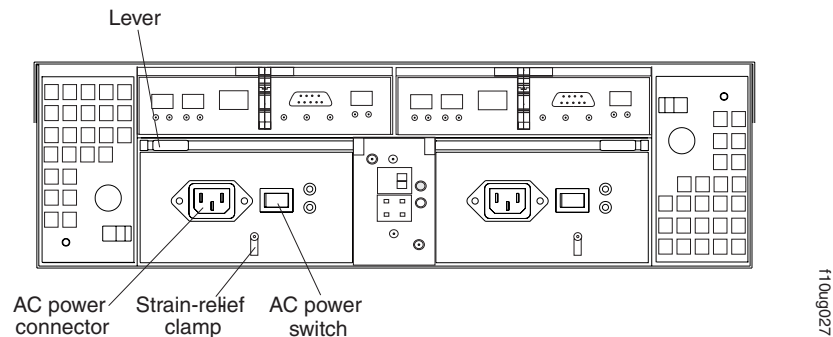

Figure 68. Connecting the power cord to the AC power connector
5. Connect the power cord to the AC power connector. See Figure 68.